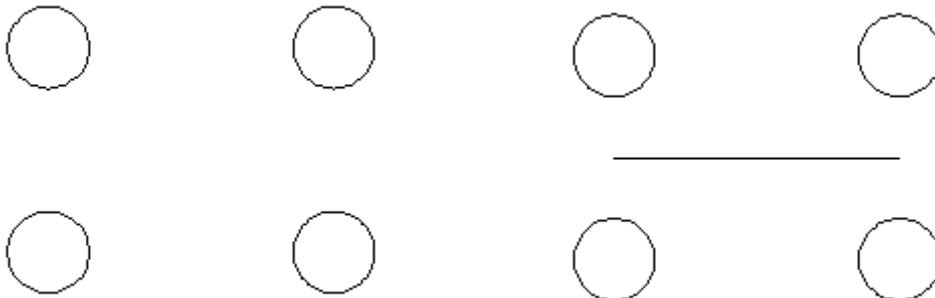

Fig.1
1. Draw four circles with radius of 0.50 as shown in figure 1